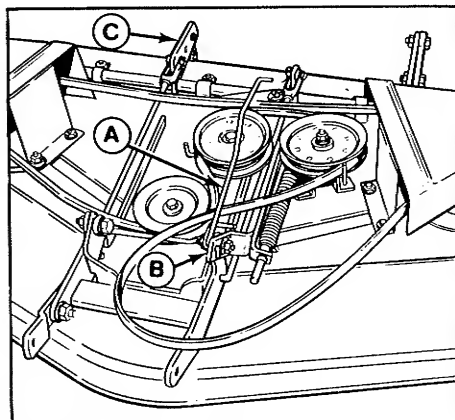
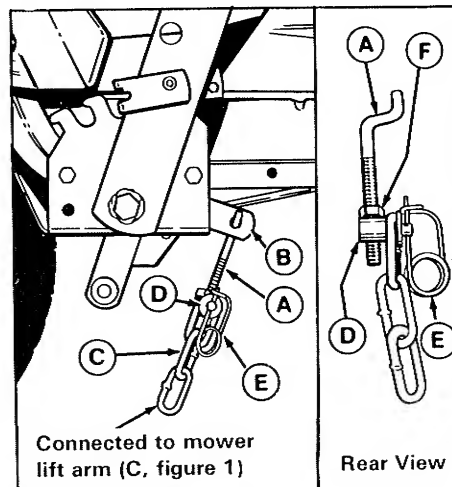

Figure 1. PTO Rod
Figure 2 Lift Chain
2. Notice that one end of the PTO rod (A, figure 1) does not have a drilled hole. Insert this end into the mower PTO arm (B) and work around until rod (A) appears as in figure 1.
that the mower lift arm (C, figure 1) is under the tractor lift arm (B, figure 2).
6. Connect the chain (C, figure 2) to the trunnion (D) with clip (E). (If optional electric lift is used, use only three links of chain).